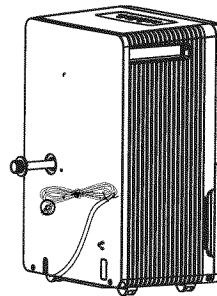

Figure 12
- Wrap the cord and bundle it with the band (Fig.12) .